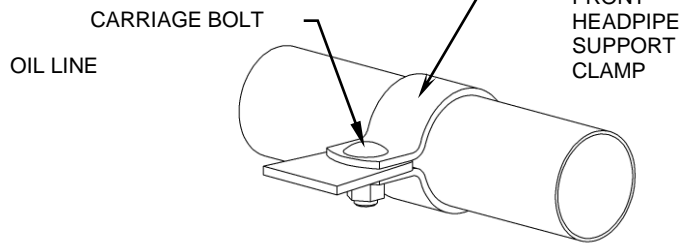

FIGURE 2
10. Slide the tube clamp over the headpipe support bracket installed in Step 5 capturing the mount on both sides, see Figure 2. Insert the supplied 3/8 carriage head bolt from top to bottom through the clamp, washer and into the locknut but **DO NOT TIGHTEN** at this time.